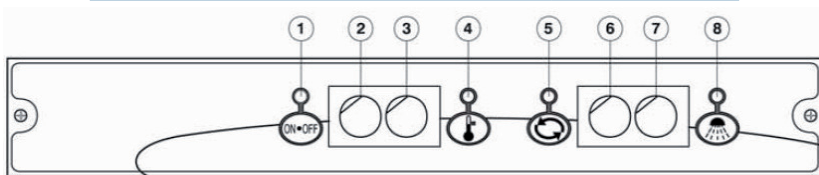

Fig. 14b
3. Start the drain pump by pressing the DRAIN PUMP SWITCH (7) (fig. 14b), if supplied
3. Let the dishwasher drain completely by starting the drain pump (if supplied). To start the drain pump, keep pressed the DRAIN PUMP SWITCH (7) (fig. 14b)